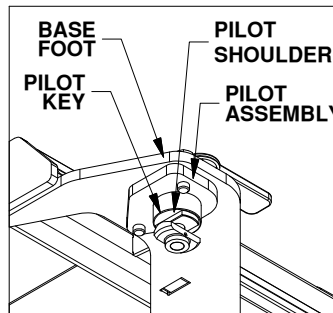

Figure B3: View under base foot
1. The Slider base will mount to four attachment points in the truck bed. Remove any debris and/or obstructions from the truck bed, this includes any plastic caps which may be over the attachment points. Remove the latch pins from each of the four latching mechanisms on the base and rotate the handles out, see figure B1. Place the Companion base over the attachment points and carefully lower it until the pilot keys have passed through the slots in each attachment point and the pilot shoulders are resting flat against the top of the attachment points, see figure B3.